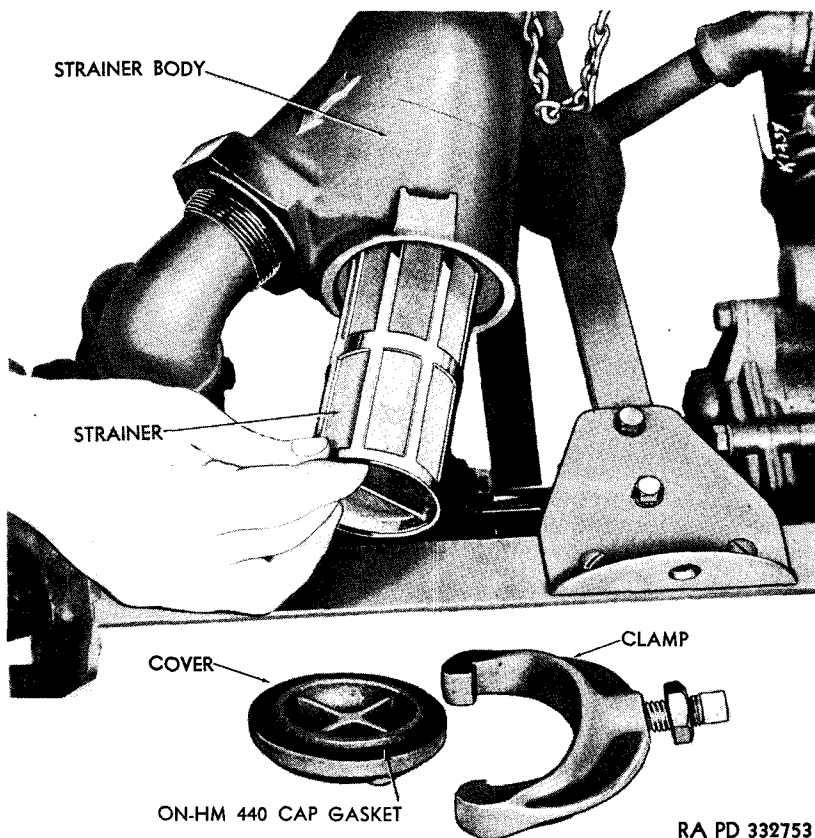

Figure 77—Strainer
b. Strainer (fig. 77).
(2) **REPLACING CAP GASKET** (fig. 77). The strainer cap is fitted with a cork gasket (ON-HM 440). Should a leak develop at the cap, replace this gasket. Loosen nut, remove clamp and cap. Pry out old gasket, and install new gasket. Install cap, clamp, and tighten in place with nut.